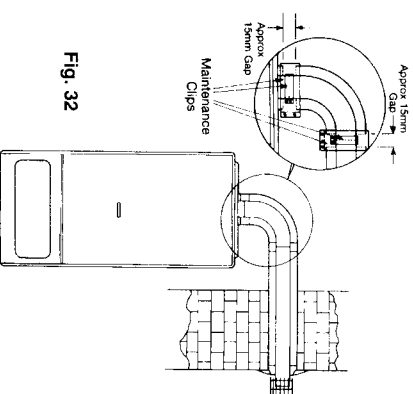

Fig 32
- 8.16.5 Remove screws on large maintenance clips (fig 32) and remove clips, loosen screws on the small clips and remove flue elbow.